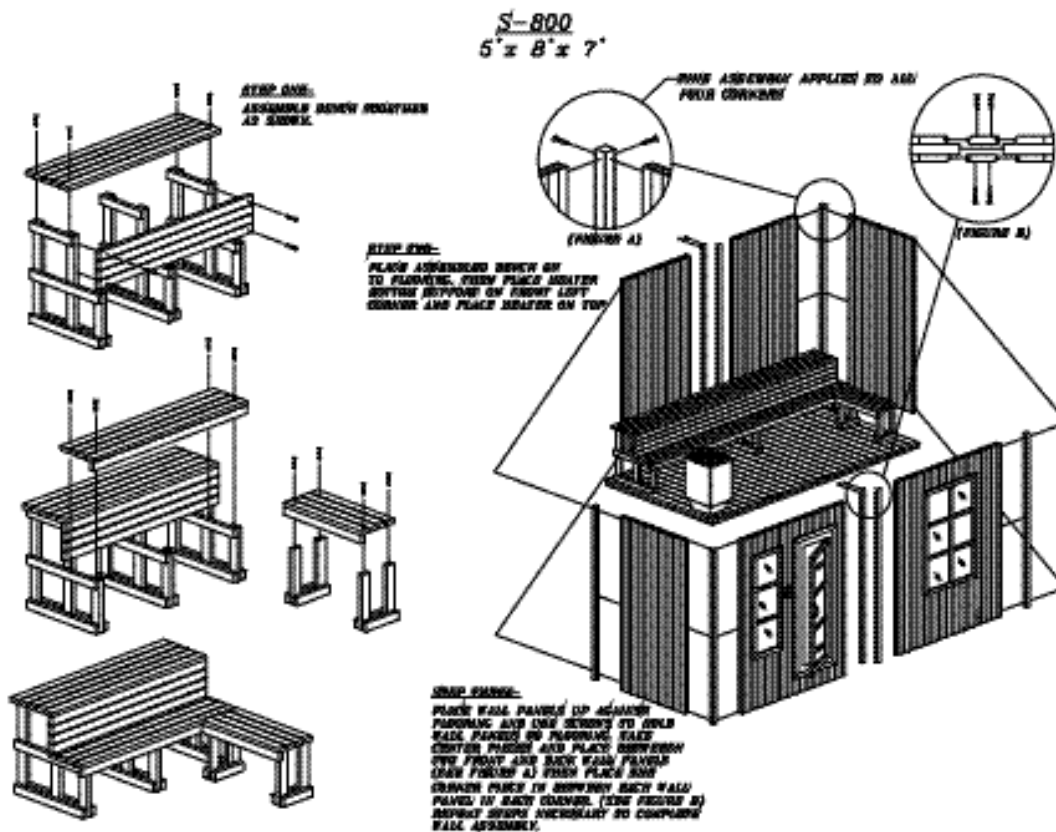

Figure 16A. S-800 Extreme Sauna Step 1 through Step 3
**NOTE:** The following steps deal with **Figure 16A**.